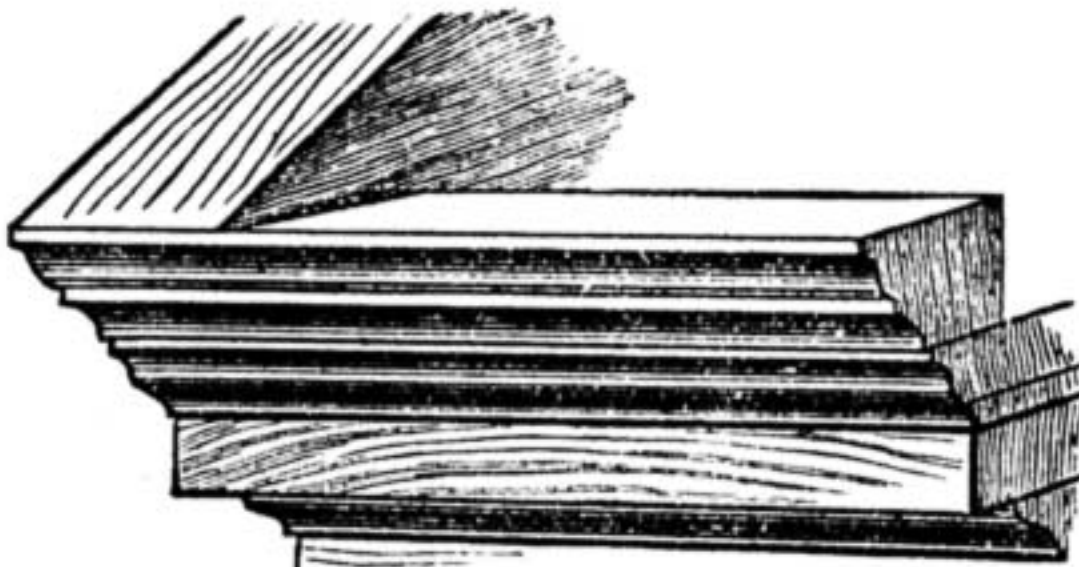

Fig. 1.
Small Sideboard with Drawers and Cupboards.—PEAHEN.—You send a proper string of questions to be answered. Several of them need scarcely have been asked, as they are answered in the text accompanying the designs. But you want apparently to thoroughly understand what you are going to make, and some doubts are troubling you which you want set at rest. This very laudable ambition on your part I shall endeavour to assist you in attaining. First then, I presume you find a difficulty in carrying the moulding shown on the raking part of the pediment along the ends. After clamping the moulding on the pediment, and finishing it as seen in the front view, you must place a piece of wood behind the pediment to work the moulding on till it reaches the backmost part of the cornice moulding. This piece of moulding that is put on behind the pediment need not follow the rake of the pediment—it may be quite flat on its top edge (see Fig. 1). (2) The upper part consists of one frame with 6 panels in it—3 below the shelf and 3 above—on the top of which rests the canopy, and against which the shelf is screwed. The cornice, therefore, and the shelf and brackets are all screwed to this back frame, and are held together by that means. The two side parts of this